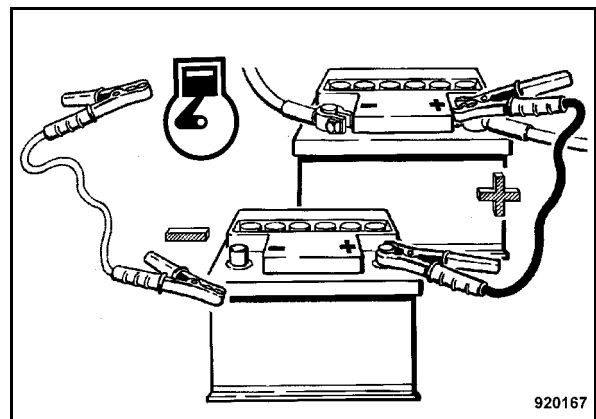

Fig. 7
- Then connect the ground cable first to the minus pole of the current supplying battery and then to engine or chassis ground, as far away from the battery as possible (Fig. 7).